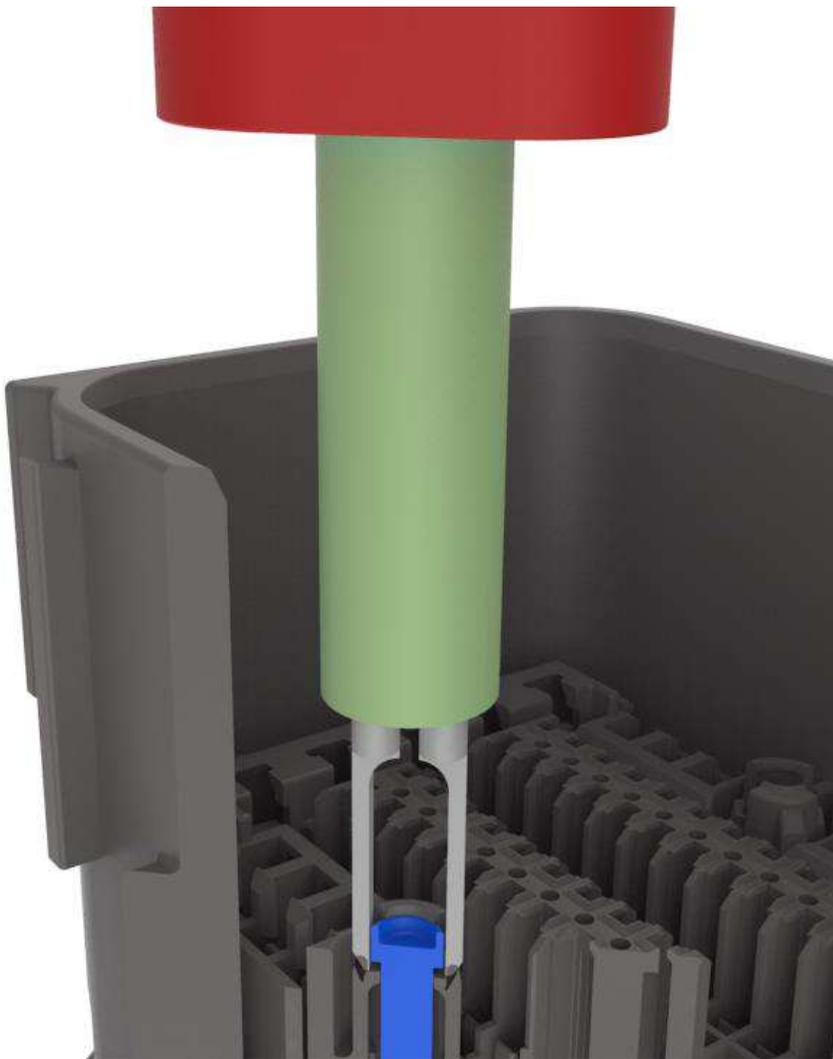

Figure 48
2. Insert the appropriate MATE-AX service tool (TE P/N 1-1579007-6 for Male and TE P/N 1-1579007-3 for Female or combo tool 2394300-1) into the exposed cavity. See Figure 48.